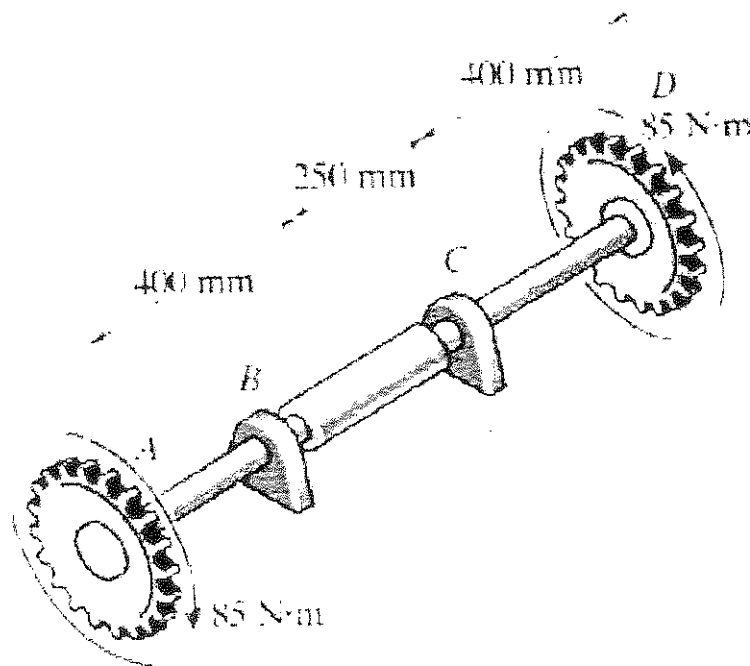

Figure 5: Steel axle and gear assembly
- (a) The steel axle is made from tubes AB and CD and a solid section BC. It is supported on smooth bearings that allow it to rotate freely as shown in Figure 5 below. The gear, fixed to its ends, are subjected to 85Nm of torques. The tubes have an outer diameter of 30mm and an inner diameter of 20mm. The solid section has a diameter of 40mm. Determine the angle of twist of gear A relative to gear D. Take G_{steel} as 75GPa.